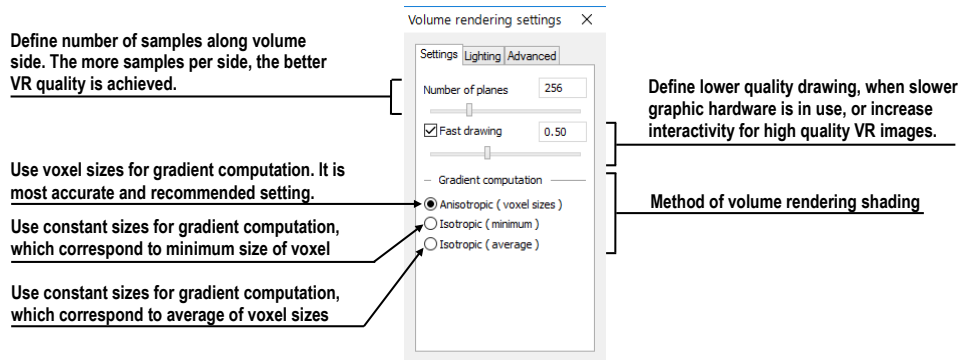

Figure 320 - Volume rendering settings, the first tab
- Basic volume rendering quality on the first tab (see Figure 320)